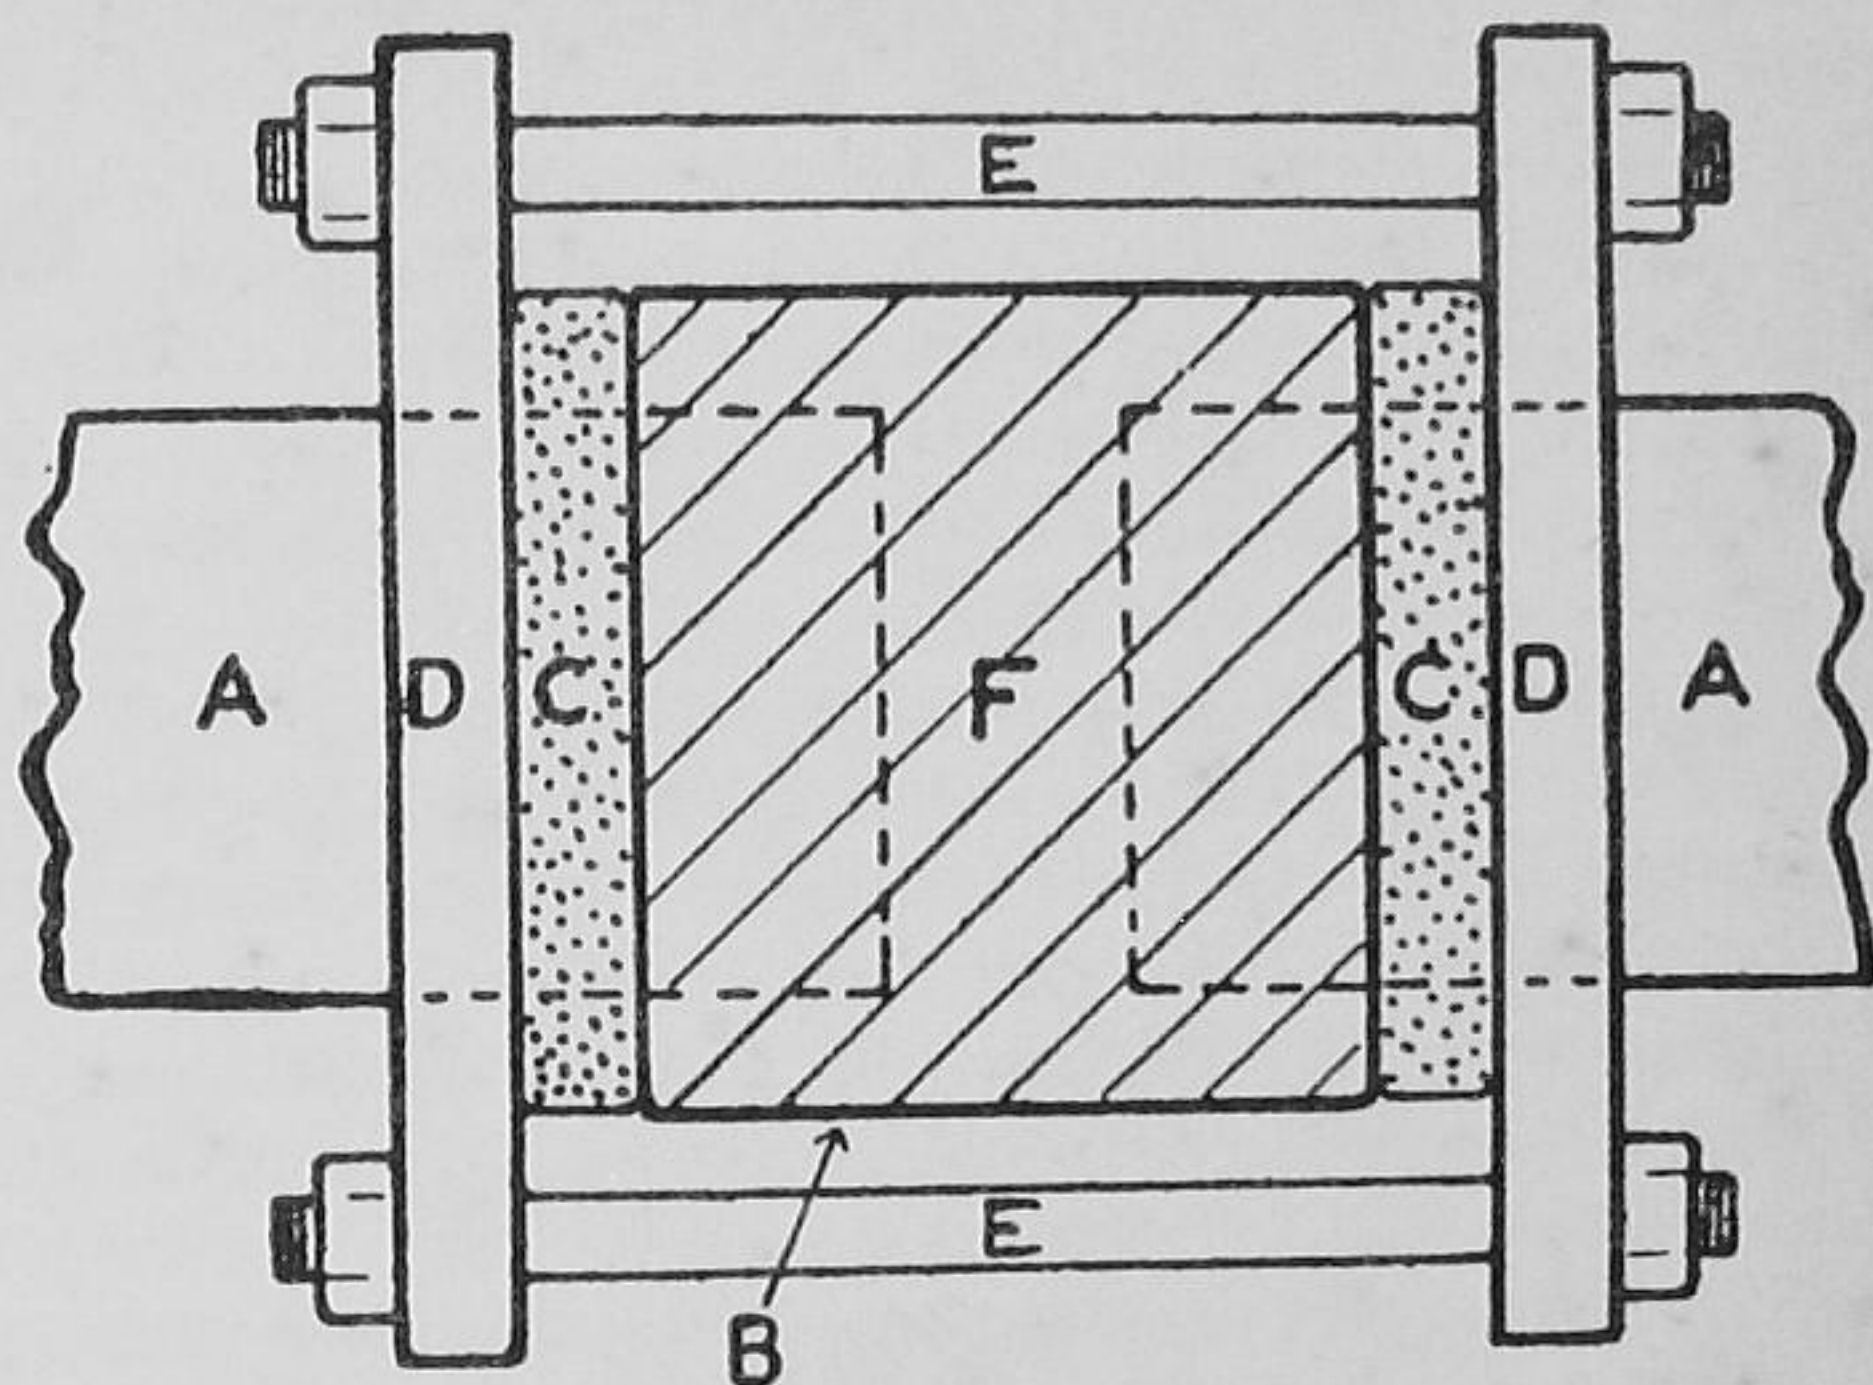

Fig. 6. EXPANSION JOINT
- (1) CHANGE OF DIMENSIONS. Nearly all solids, liquids and gases expand on heating and contract on cooling. For example, a length of cast-iron hot-water pipe which measures 100 feet long at 32°F. , increases $1\frac{3}{8}$ inches in length when heated to 212°F. If this expansion is not allowed for it might fracture the pipes, so expansion joints (Fig. 6) are often used to connect hot-water pipes. In tropical regions, where it is extremely hot by day and cold by night, the alternate expansion and contraction of rock surfaces eventually results in their disintegration.